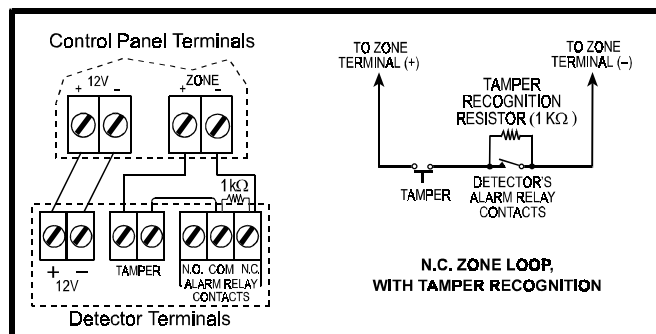

Figure 3.3. N.C. Configuration with Tamper Recognition
A. Normally Closed Circuit Configuration (see Figure 3.3)